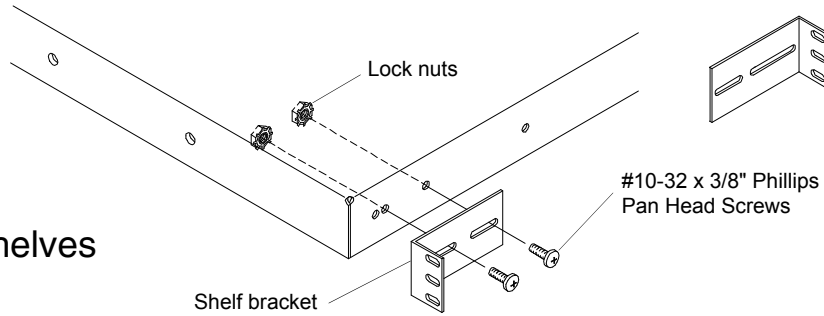

Figure 3
1. Install the front and rear shelf brackets as shown on both the left hand and on the right hand side of the shelf. (figure 3)